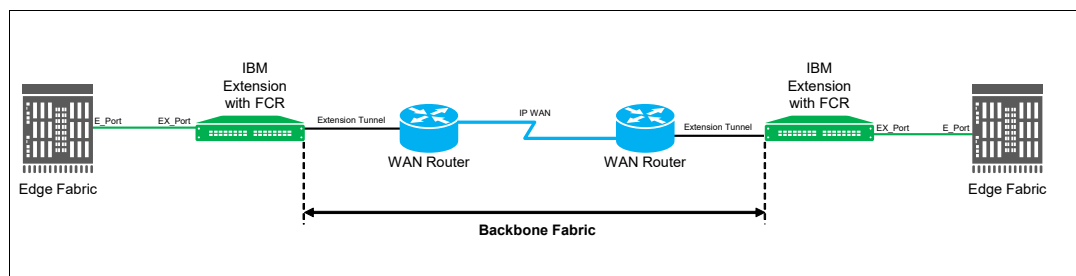

Figure 7-31 Edge-backbone-edge extension architecture
- ▶ Edge-backbone-Edge by using FCR and Extension in which edge-fabrics bookend a transit Extension backbone fabric, as shown in Figure 7-31. The backbone fabric has EX_Ports that are outward facing to the edge-fabrics. Extension is within the backbone segment by using VE_Ports.